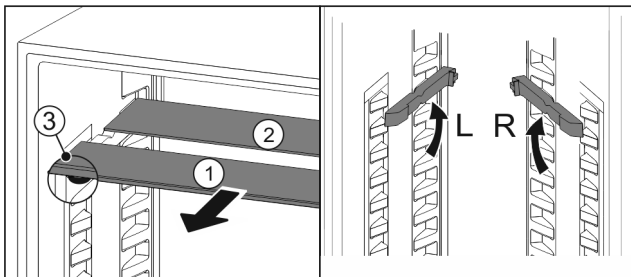

Fig. 159
- Pull the glass panels out Fig. 159 (1) from the front, one at a time.
- The glass panel Fig. 159 (1) and trim strip are at the front.
- The stops Fig. 159 (3) point down.